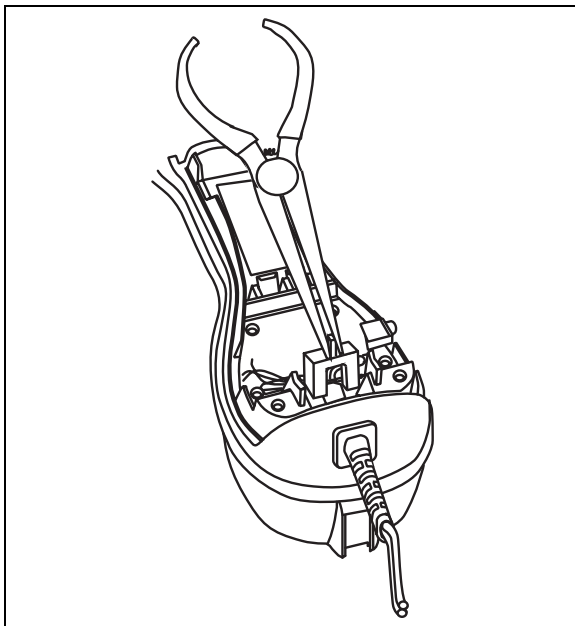

Figure 7. Removal/Installation of Plastic Clip
- Using needle nose pliers, remove the plastic clip (see Figure 7) that holds the line cord strain relief in place.
- Insert the plastic clip over the line cord strain relief at the base of the test set housing (see Figure 7) and press tightly into place. Inspect all work to ensure no pinched wires or areas where weather resistance and safe operation is affected.